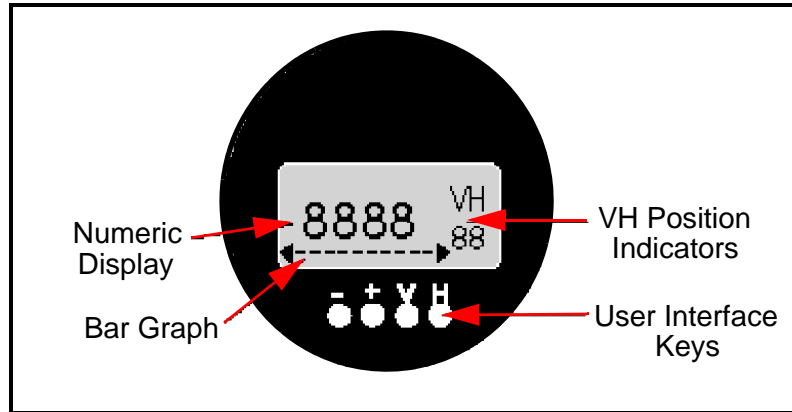

Figure 15: The MMY30 Optional Display
The display of the DewPro MMY30 continuously shows the current matrix location using the vertical (V) and horizontal (H) coordinates to designate the row and column, respectively. The bar graph represents the output current in an analog fashion (refer to Figure 15 above). See Appendix A for an enlarged overview of the matrix with all possible options, shown in Table 2 below.